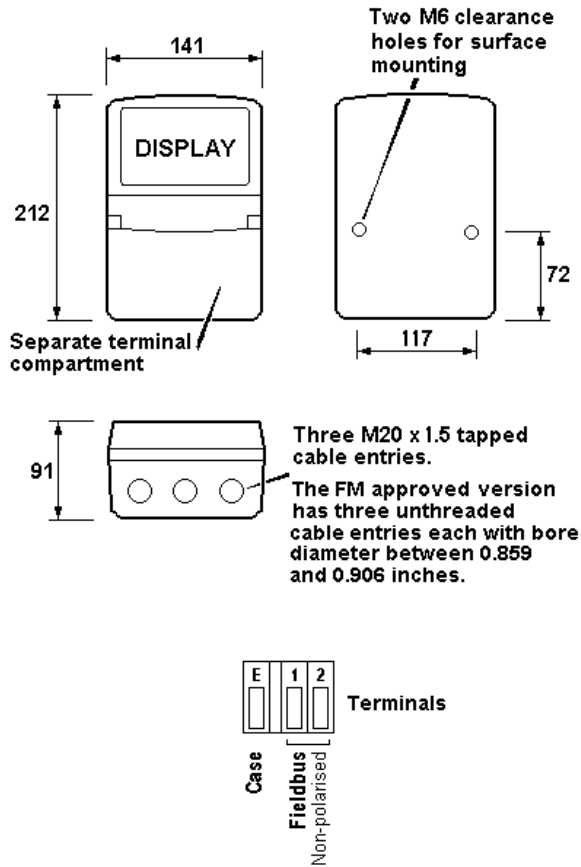

Fig 3 Dimensions and terminal connections
- d. Connect the field wiring to the terminals as shown in Fig 3.
Connection	3; Fig 3